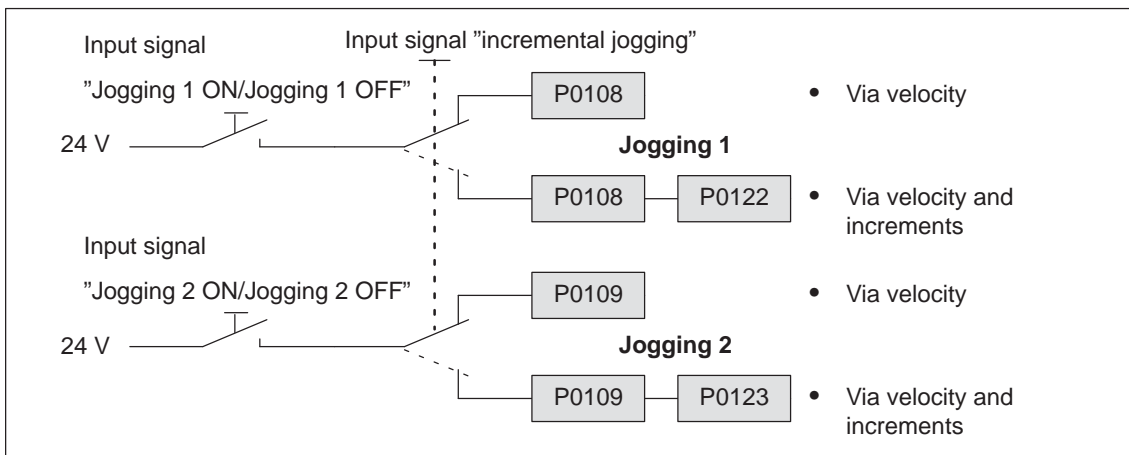

Fig. 6-21 Jogging: Via velocity or incrementally
**Changing over into the jogging mode** The jogging mode can be selected using the input signal "jogging incremental" (refer to Fig. 6-21):